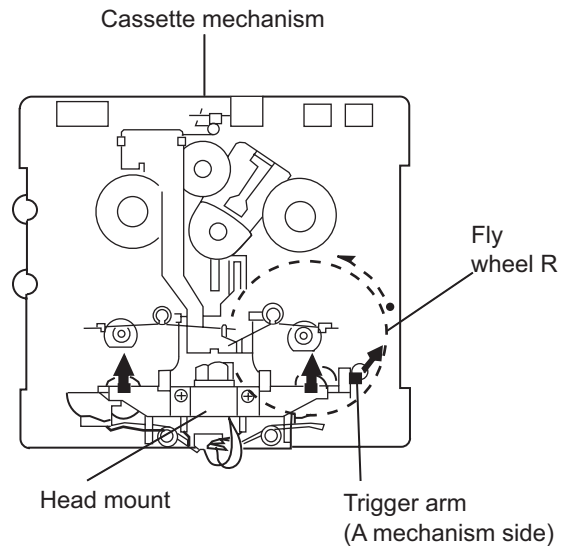
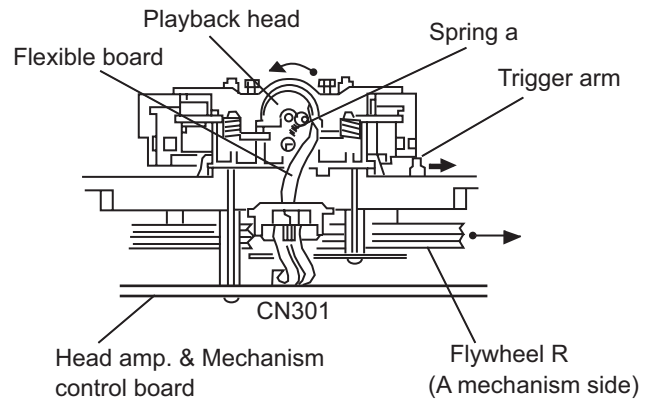
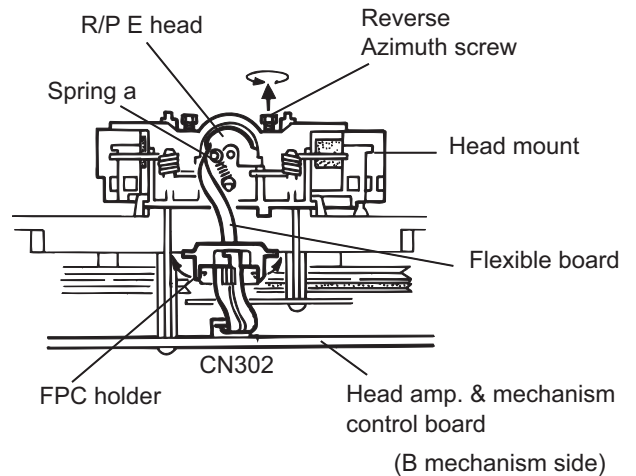

Fig.1
Fig.2
Fig.3
(See Fig. 1 to Fig. 3)
- (1) While shifting the trigger arms seen on the right side of the head mount in the arrow direction, turn the flywheel (R) in counterclockwise direction until the head mount has gone out with a click (See Fig. 1).
- (2) When the flywheel (R) is rotated in counterclockwise direction, the playback / recording & eraser head will be turned in counterclockwise direction from the position in Fig. 2 to that in Fig. 3.
- (3) At this position, disconnect the flexible board (outgoing from the playback / recording & eraser head) from the connector CN31 on the head amplifier & mechanism control board.
- (4) Remove the flexible board from the chassis base.
- (5) Remove the spring a from behind the playback / recording & eraser head.
- (6) Loosen the reversing azimuth screw retaining the playback / recording & eraser head.
- (7) Take out the playback / recording & eraser head from the front of the head mount.
- (8) The playback / recording & eraser head should also be removed similarly to steps 1 to 7 above.